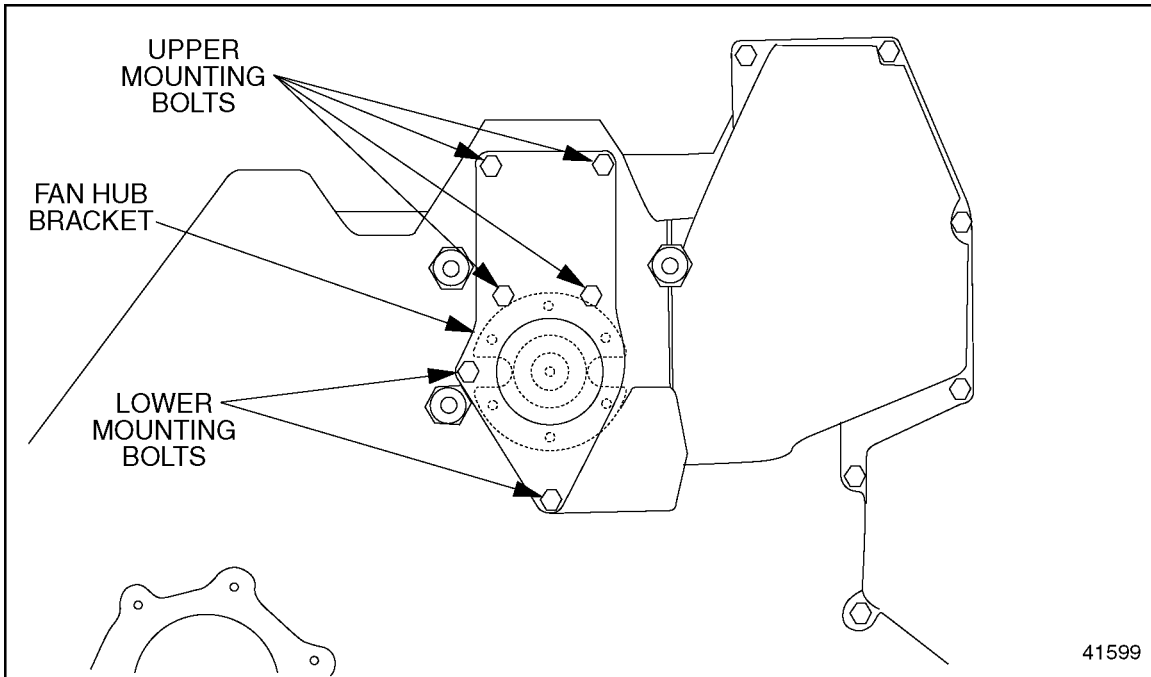

Figure 1. Location of Upper and Lower Fan Hub Bracket Mounting Bolts
1. Using the four (4) fan hub bracket upper mounting bolts previously removed, install the new fan hub bracket onto the engine. Torque the four (4) upper bolts to 22 N•m (16 lb-ft or 192 lb-in). See Figure 1.